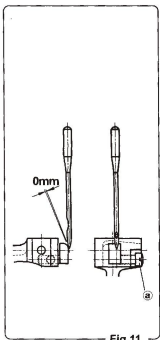

Fig. 11
When the stitch width is changed, the needle guide must be adjusted accordingly, as the clearance between the needle guide and the needle will change. Turn the pulley in the forward direction after loosening the screw ⑬ of Fig. 11 and adjust the clearance between the needle and needle guide to zero when the end of the needle guide comes to the side of the needle, as shown in (Fig. 11) and tighten the screw ⑬.